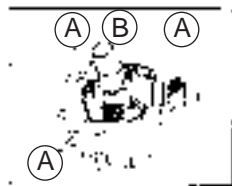

Fig. 1
Laguna Water Gardening Pumps 2000, 3000, 5000 and 7000: Use a Phillips (cross headed) Screwdriver to remove four screws (A) that are attached to the motor cover (B). (Fig. 1)